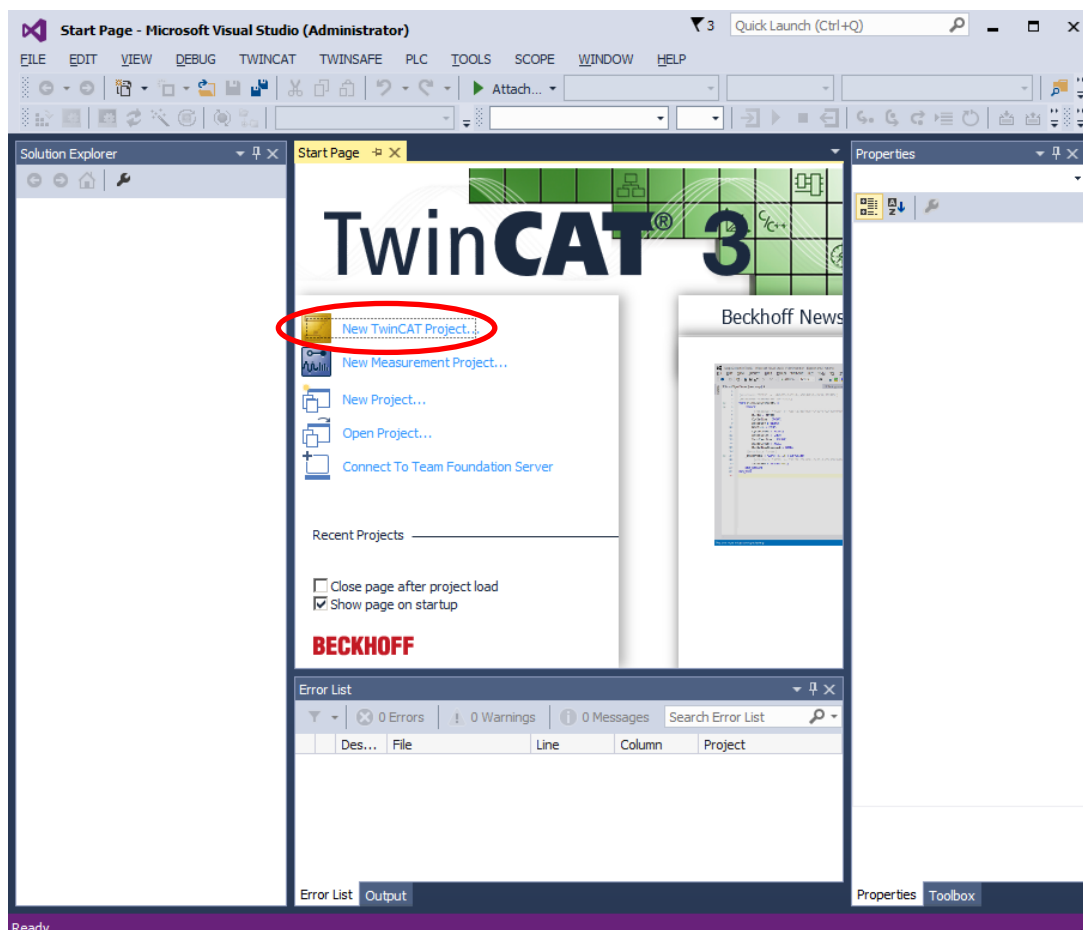

Figure 3-5 TwinCAT®3 Start-up Screen
- (1) Start the "TwinCAT XAE" program by one of the following methods.
- (2) After starting the program, select [New TwinCAT Project] as shown in Figure 3-5 and create a new project of type TwinCAT XAE Project. Note that the creation of the new project may take several 10 seconds and watch the progress bar in the lower right corner of the TwinCAT®3 window.